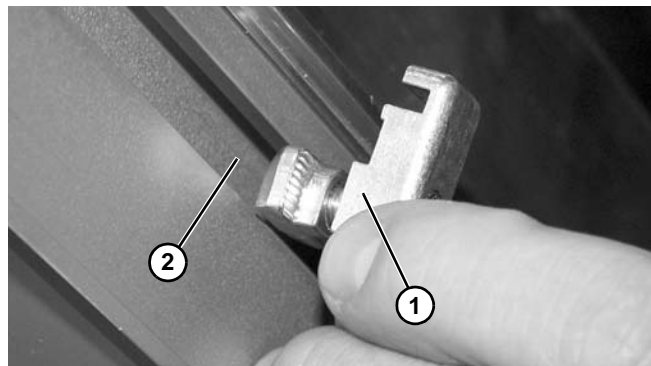

**Figure 29**
1. Loosen screws (Figure 29, item 1).
2. Install dust cover (Figure 29, item 2) behind screw heads and over access slot. Tighten screws (Figure 29, item 1).